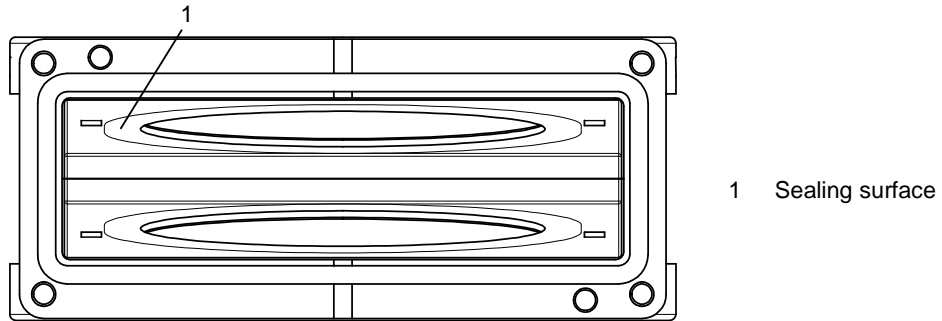

Figure 7-3
- Clean gate sealing surfaces (1) (seat side) and other surfaces inside valve body; see «Figure 7-3».